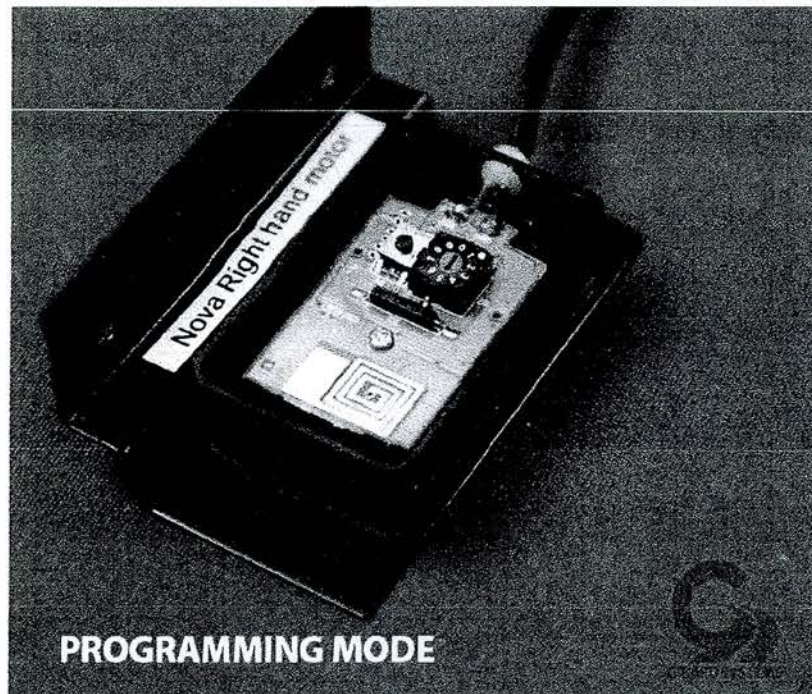

Figure 4
- D. Place the Motion Sensor cover upside down and back onto the base (Figure 4). The reed switch must be located directly over the magnet to operate the Motion Sensor.
- D. Place the Motion Sensor cover upside down and back onto the base (Figure 4). The reed switch must be located directly over the magnet to power the Motion Sensor.